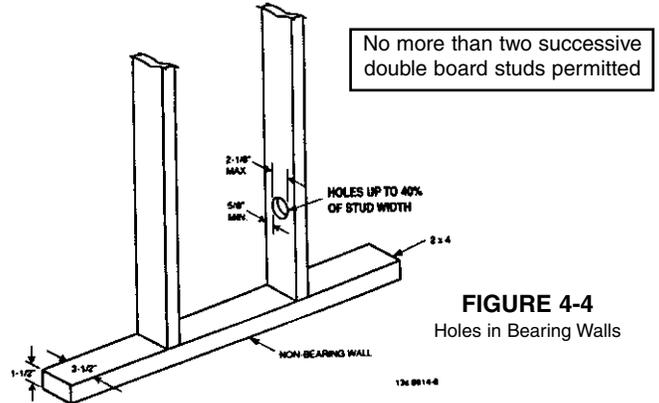

**FIGURE 4-2** - Holes in Wood Joists
- Where a hole is to be bored in a joist, the hole should be located at the centerline, otherwise no closer than 2 in. (50.8 mm) from the nearest edge of the joist, and the hole diameter shall not exceed 1/3 the depth of the joist. (See figure 4-2.)